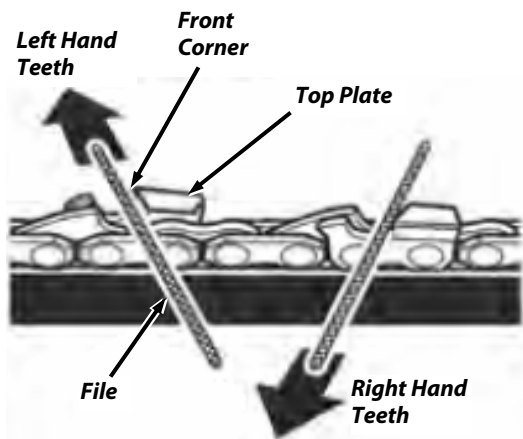

Figure 20
2. Keep the file level with the top plate of the tooth and do not let the file dip or rock, as you use light but firm pressure to stroke the file towards the front corner of the tooth (**Figure 20**).